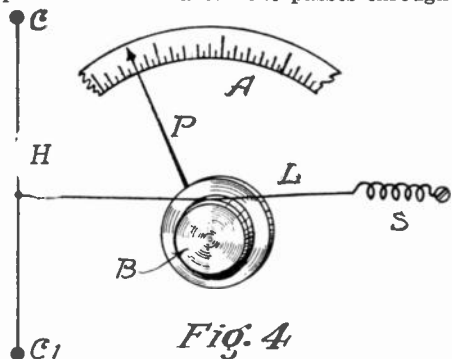

Fig. 4
A sketch of the electro-thermal or hot wire ammeter is shown in Fig. 4. When a circuit is connected to posts (C, C') and a current passes, the wire (H), being of high resistance, heats up, causing the wire (L) attached to the center of (H) to become slack. (L) passes once around a pulley and its other end is joined to a spiral spring (S). The spring tends to take up slack in (L), and so a torque is applied to (B), which causes it to rotate, carrying a needle (P) over a portion of the scale. The hot wire type meter has one disadvantage, that of requiring frequent resetting to zero, and it also may be affected by changes in room tempera-